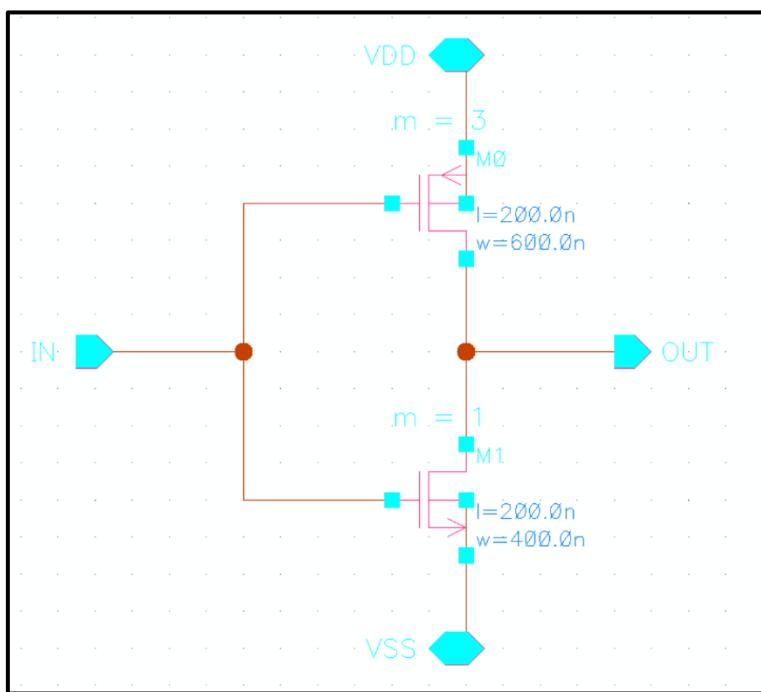

Figure 1 Unit inverter schematic
1. Run an inverter buffer ( $\text{out} = \text{in}^-$ ) with output loading  $75\text{pF}$  with  $\text{VDD} = 1\text{V}$ , as shown in Fig 1. (The size of the first inverter has been assigned.) (the rising time and falling time of input is  $0.01\text{ns}$  & input frequency =  $5\text{MHz}$ ).